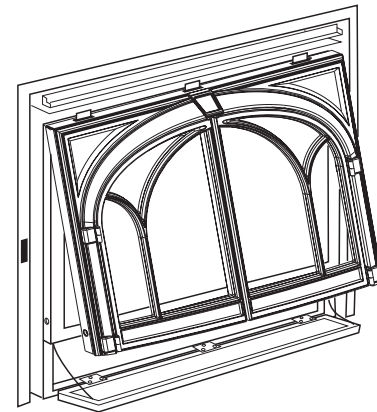

Figure 45. Hang the frame on the cabinet.
The door assembly attaches to the fireplace by engaging the three slots in the upper frame with the corresponding steel tabs at the top of the firebox. See Fig. 45.
1. Open the Control Access Door. Hang the door frame onto the firebox by engaging the tabs with the holes in the frames. See Fig. 45.